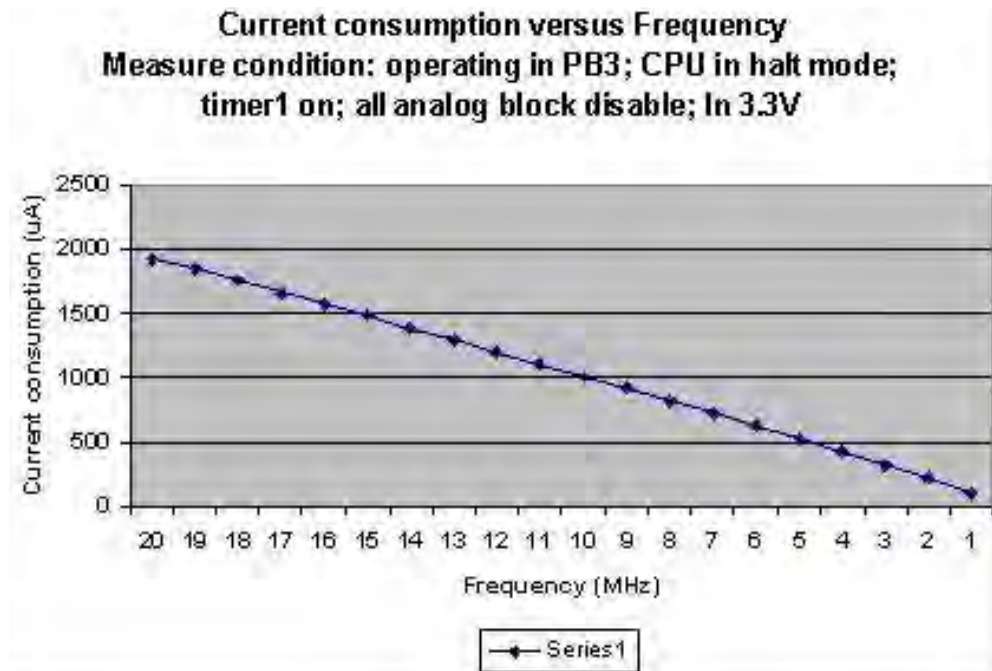

Figure 31. I_{CC} Versus System Clock Frequency (HALT Mode)
3. See Figure 31 for HALT Mode current.
Figure 31 displays the typical current consumption while operating at 25 °C, 3.3V, versus the system clock frequency in HALT Mode.